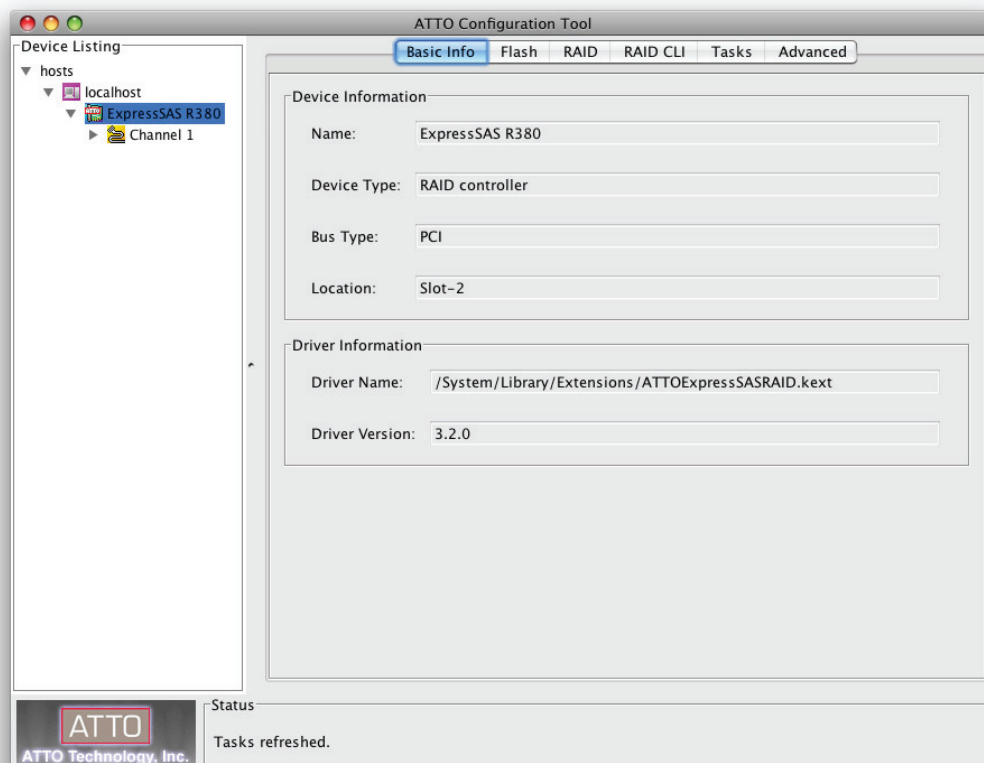

Figure 2
- The **Basic Info** tab provides information about the Sonnet RAID controller when it is highlighted in the Device Listing pane. You cannot make changes from this screen. See **Figure 2** on page 3.